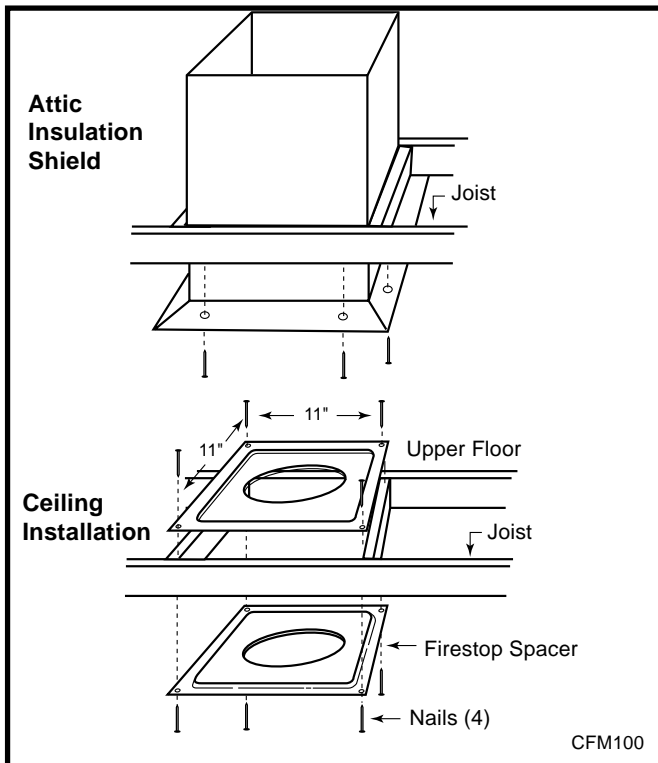

Fig. 31 Place firestop spacer(s) and secure.
6. Place firestop(s) #7DVFS or Attic Insulation Shield #7DVAIS into position and secure. (Fig. 31)
If there is room above ceiling level, firestop spacer must be installed on both the bottom and the top side of the ceiling joists. If an attic is above ceiling level a 7DVAIS (Attic Insulation Shield) must be installed. (Fig. 31)